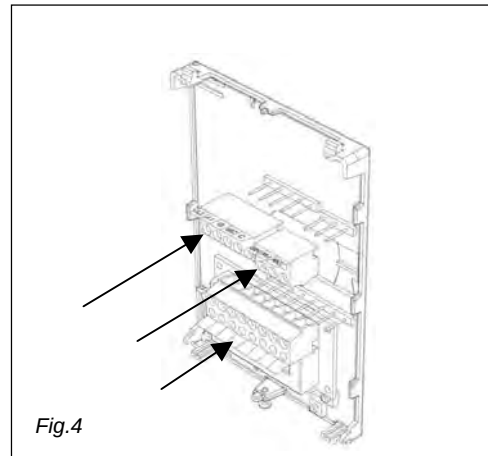

Fig.4
- 1- Swing open the humidistat PCB to the left by pressing the PCB locking tabs. (Fig. 4)
(Fig. 4)